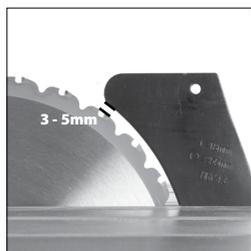

Fig. 16
- Adjust the Riving Knife so that it is between 3 – 5mm from the saw blade. (Fig. 16).